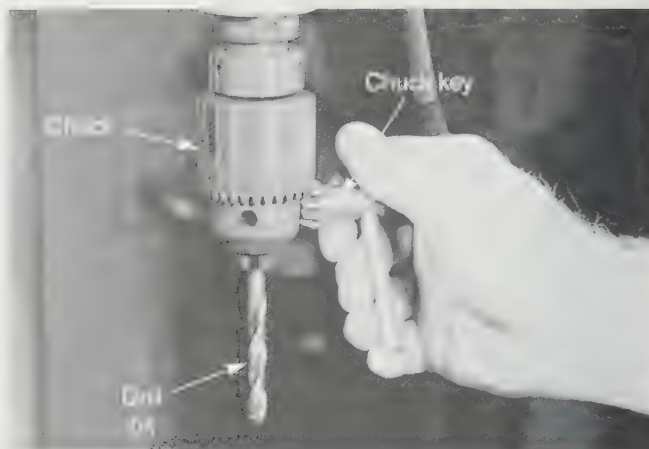

Figure 3-59. A chuck holds and turns the drill bit. Use a chuck key to firmly tighten the drill bit in the chuck. Never leave the key in the chuck.
3. Make sure the drill bit is tight in the drill chuck, **Figure 3-59**.